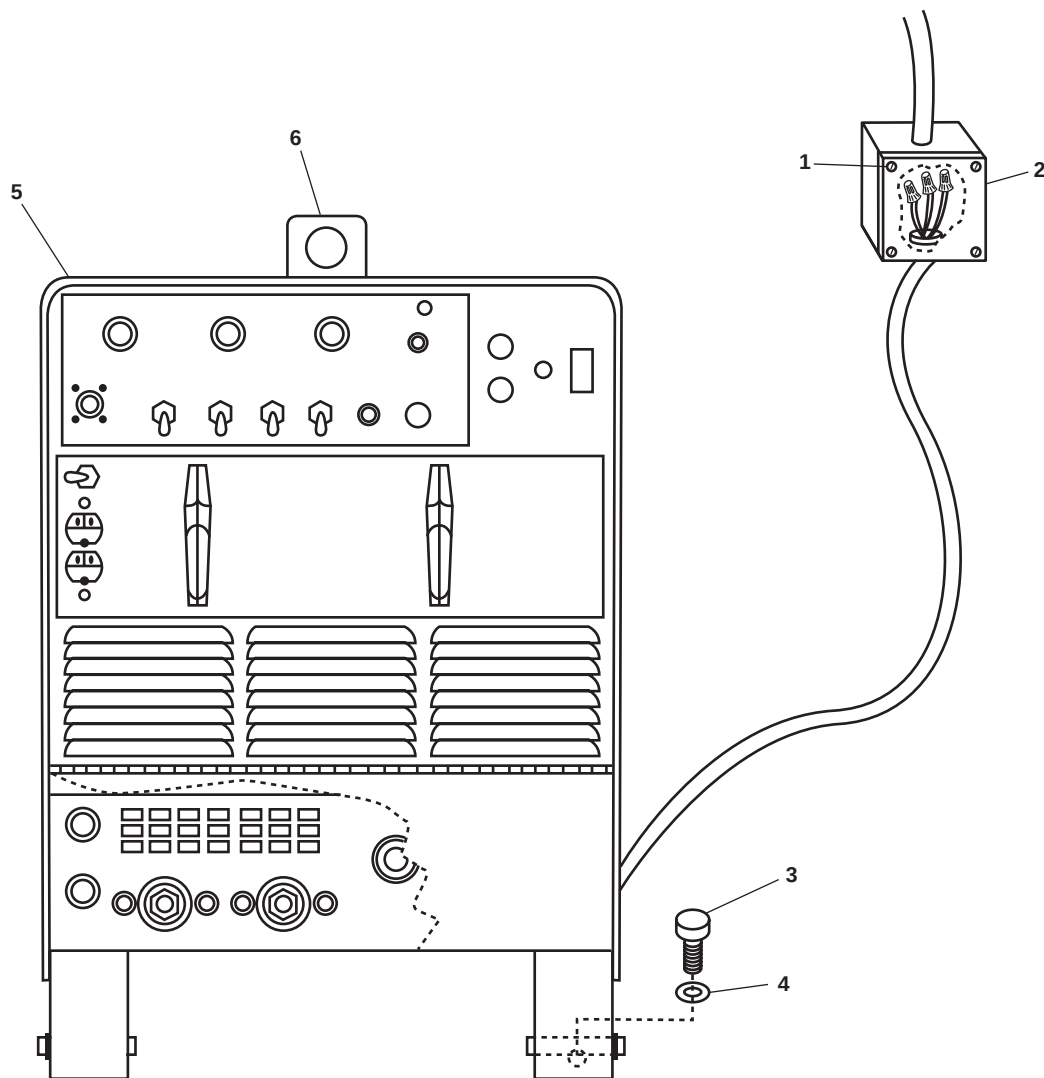

Figure 1. Arc Welder Removal
1. Remove the screws (figure 1, item 1) holding the electrical junction box cover (figure 1, item 2).
2. Remove the junction box cover (figure 1, item 2).
5. Remove the bolts (figure 1, item 3) and flat washers (figure 1, item 4) securing the welder (figure 1, item 5) to the deck.
6. Attach an endless sling through the welder (figure 1, item 5) lifting eye (figure 1, item 6) and use the hand operated chain hoist to lift the welder off the deck for removal.
1. Slowly lower the welder (figure 1, item 5) to the deck and position the arc welder over the mounting holes in the deck.
2. Install the flat washers (figure 1, item 4) and bolts (figure 1, item 3). Tighten the bolts.
3. Connect the welder (figure 1, item 5) wires inside the junction box using the labels from step 4 of Removal as a guide. Remove the labels.